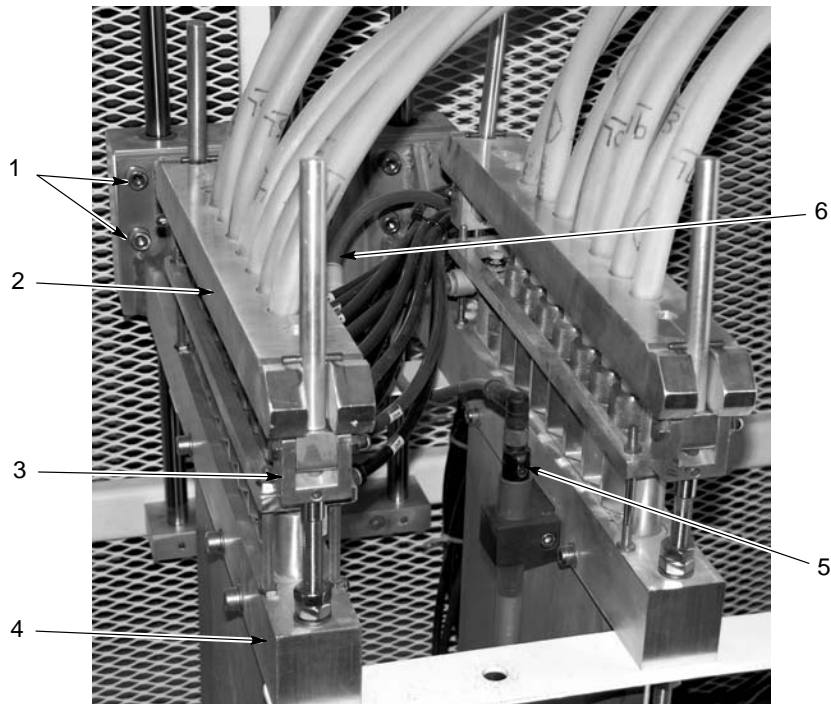
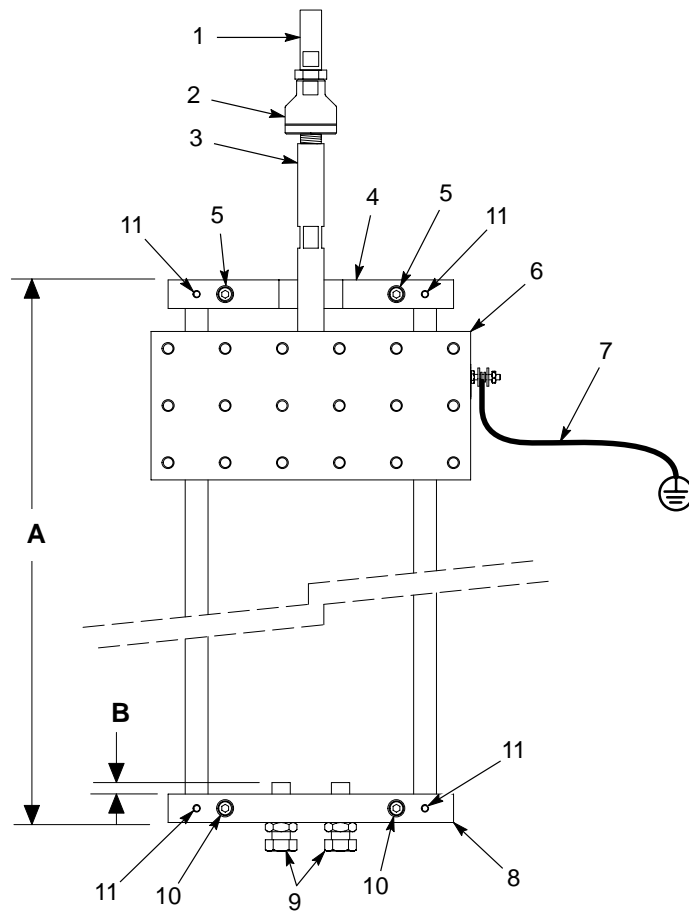

Figure 2 Lance Arm Removal
Figure 3 Vertical Slide Assembly Removal
7. See Figure 2. Disconnect the powder feed hoses from the inline pumps by unclamping the two cam lock clamps (3) and removing the hose clamps (2) and hoses from the top of the lance arms (4).
1. See Figure 3. Disconnect the ground cable (7) from the bearing block (6).
2. Measure and record the overall height of the vertical slide (**A**), from the bottom surface of the bottom support plate (8) to the top surface of the top support plate (4).
3. Measure and record the distance (**B**) that the two stop bolts (9) extend above the top surface of the bottom support plate.
4. While holding the bearing block up, unscrew the actuator shaft (1) from the shaft aligner (2). Lower the bearing block onto the slide bottom support plate (8).
1. Set the new slide assembly horizontally on top of a work bench with the top and bottom support set screws (11) facing up.
2. See Figure 3. Measure the height of the vertical slide (A), from the bottom surface of the bottom support plate (8) to the top surface of the top support plate (4).
1. See Figures 3 and 4. Install the new slide assembly in the feed center using M8 x 80 mm long stainless steel bolts (5, 10) through the top and bottom support plates. Tighten the bolts until hand tight.
2. Connect the actuator shaft (1) to the shaft aligner (2).
3. Connect the ground cable (7) to the bearing block ground stud.
4. Install the lance arms on the bearing block with M10 x 30 mm long stainless steel bolts and M10 lock washers (7). Temporarily tighten the bolts until snug, but not so tight that the bottom of lance cannot be rotated right and left.
6. See Figure 2. Connect the 10-mm air supply tubing (6) to the fluidizing air flow control valves on the lance arms.
7. Connect the level sensor cable(s) to the level sensor(s) (5) on the lance arms.
8. Install the powder hose clamps (2) onto the pumps and clamp them in place with the cam lock assemblies (3).
12. See Figure 3. Adjust the two stop bolts (9) in the bottom support plate (8) to allow full compression of the face seal on top of the purge manifolds. Tighten the lock nut on each stop bolt.